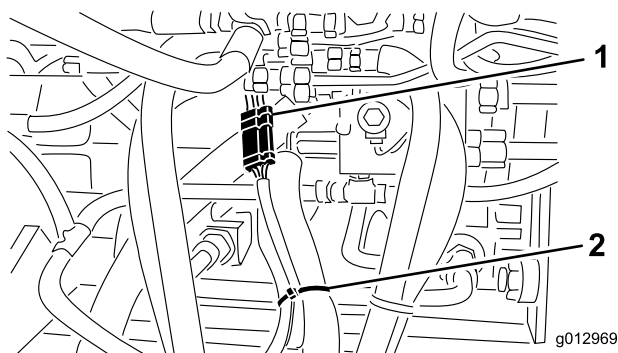

Figure 4
5. Locate and unplug the cutting unit wire harness from the traction unit wire harness (Figure 4). Connect the wire harness cap (included in the loose parts) to the traction unit wire harness to protect the terminals. To retain cap when not in use, secure the cap loop to traction unit with a cable tie.